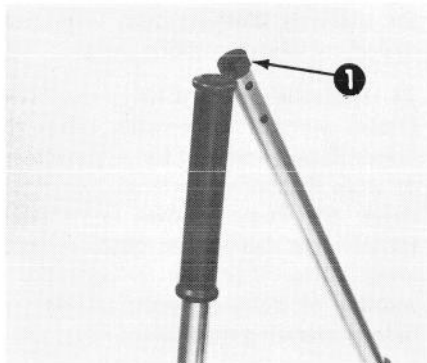

Figure 1
2. Remove and discard the grommet from inside the upper handle (Fig. 1).